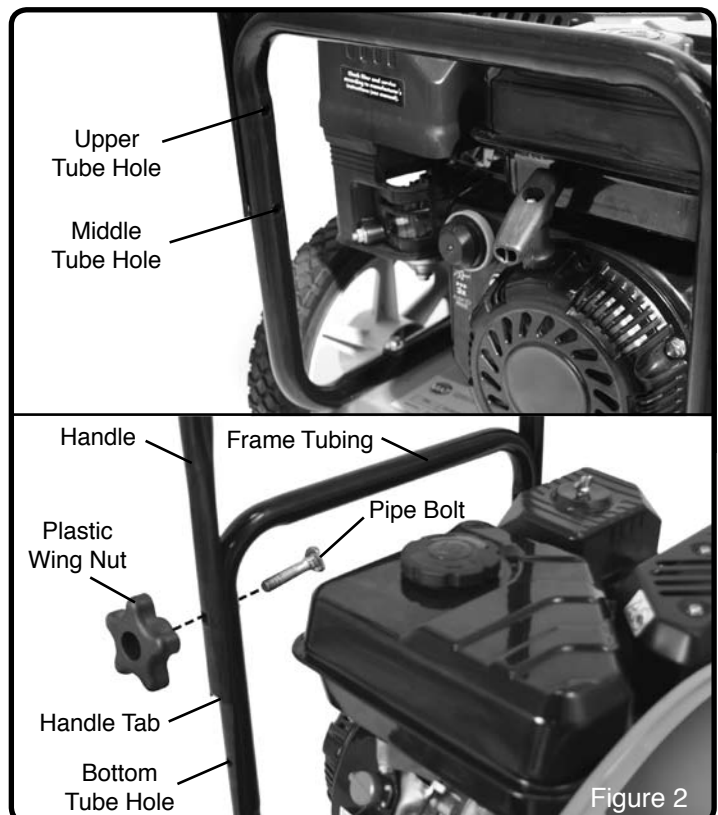

Figure 2
NOTE: There are two positions in which the handle can be attached – a high position and a low position. (See Figure 2)
1. Assemble the handle tabs into the holes on the lower frame tubing. Use the bottom holes for the low handle position. Use the middle holes for the high handle position. (See Figure 2)
2. Secure the handle onto the frame tubing with the (2) pipe bolts and the (2) plastic wing nuts. Firmly hand-tighten the wing nuts. (See Figure 2)